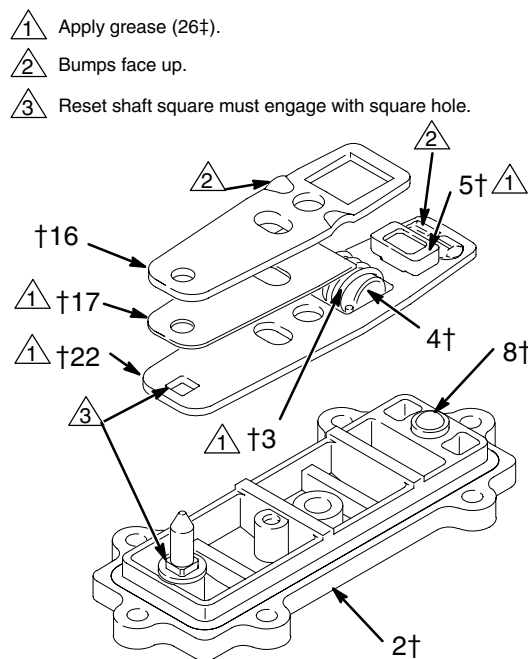

Fig. 11
5. Grease the detent link (22) and link spacer (17). Assemble the detent link, link spacer, and actuator link (16) as shown in Fig. 11. The raised bumps on the links (22 and 16) must face up.
6. Squeeze the spring (3) and install it and the stop (4) in the link assembly. The spring tension will hold all these parts together. Grease the valve cup (5) and install it in the link assembly as shown.
7. Install the link assembly on the cover (2) so the pointed end of the reset shaft (21) fits through the holes in the links and the square part of the shaft engages the square hole. Make certain the bumps on the detent link (22) engage the ball (8).